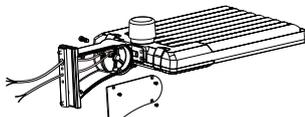

Figure 3
Step 1: Remove the bracket mounting screws on the fixture, open the side lid of bracket and run the wires through the bracket. (Figure 3)